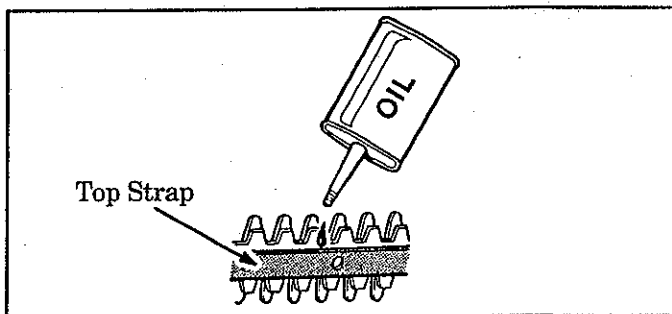

Figure 9
- d. Apply a light machine oil along the edge of the top and bottom straps. Figure 9.